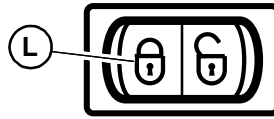
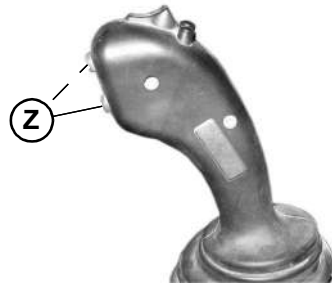

Figure 48 – Hydraulic Power-A-Tach[®] System Hitch Lock Switch
Figure 49 – AL 100 Series Bottom Auxiliary Hydraulics Control Button (Power-A-Tach[®] System Hitch Lock Switch Enable Button)
3. Push the  side of the Power-A-Tach[®] system hitch lock switch (L, Fig. 48) to lock the attachment onto the hitch.
Press and hold the bottom auxiliary hydraulics control button (Z, Fig. 49) and then push the  side of the Power-A-Tach[®] system hitch lock switch (L, Fig. 48) to lock the attachment onto the hitch.
AL 100 Series machines: Press and hold the bottom auxiliary hydraulics control button and then push the  side of the Power-A-Tach® system hitch lock switch (L, Fig. 48) to unlock the attachment.